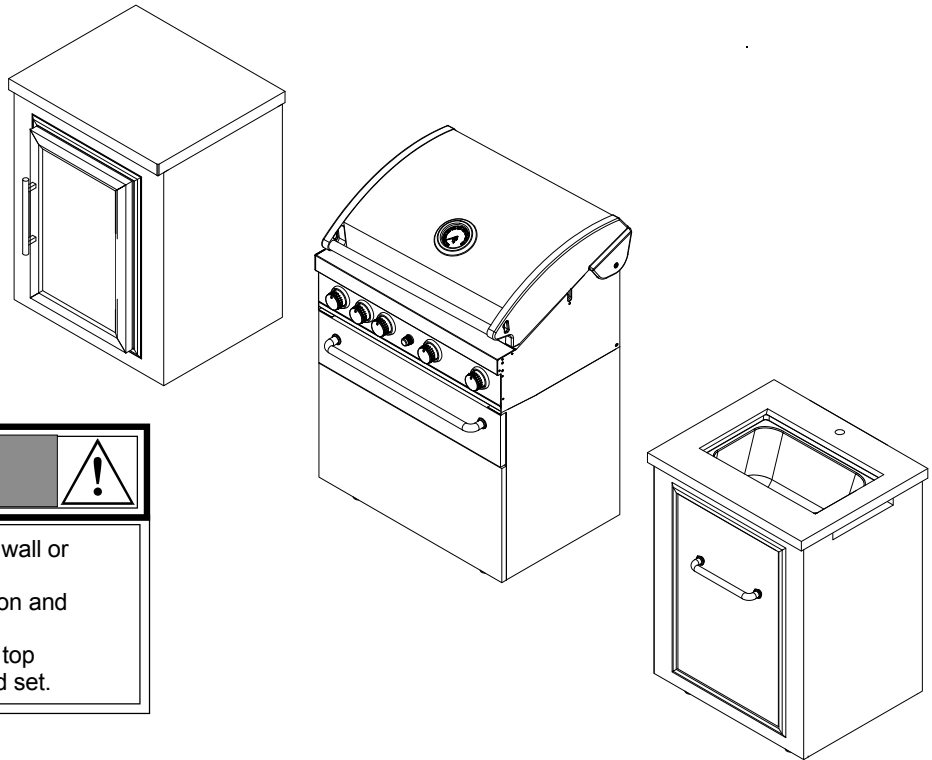

Fig.2
- ☐ Make sure the goes through the "O" hole on left panel of Right Cabinet (see Fig.2).